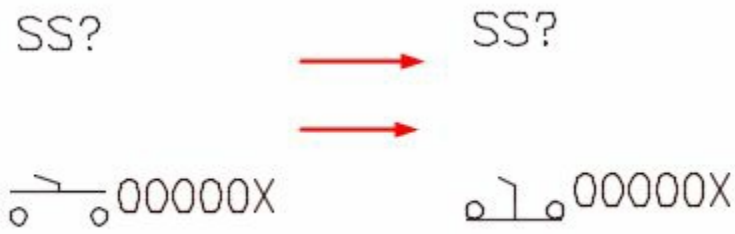

Figure-37. Component after toggling
- Select the component, its status will be changed; refer to Figure-37.